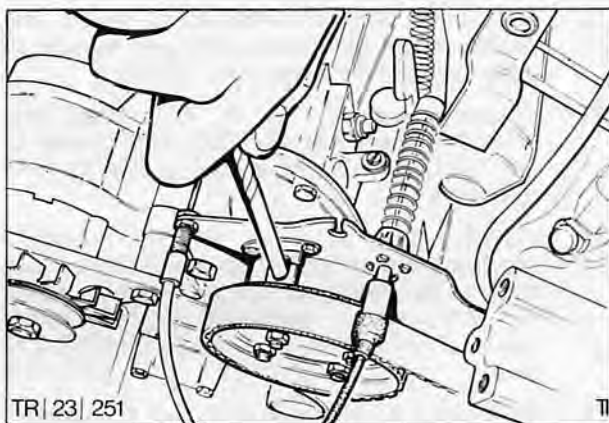

Fig. 52. Injector pump set at spill timing using an 8 mm twist drill to line-up hole
32. Manually hold drive gear stationary and turn pump drive until peg holes on pump line up correctly. This can easily be achieved by using an 8 mm twist drill as shown, in Fig. 52.